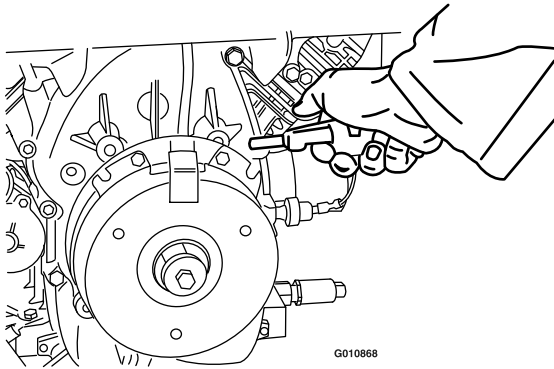

Figure 73
2. Using an air compressor, blow out any debris from under the brake pole and around the brake spacers (Figure 73).